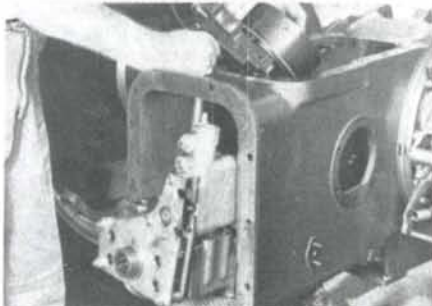
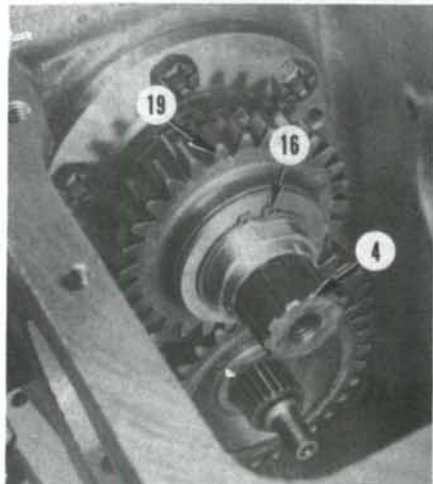

Fig. 221—On models equipped with independent pto, remove hydraulic pumps out front opening of housing and withdraw iptto clutch unit as shown.
Fig. 222—Remove snap ring (16) and gear cluster (19) from front of pinion shaft (4). Unit shown is equipped with dual speed iptto.
To remove bevel pinion on models equipped with Multi-Power, independent pto and/or auxiliary hydraulic system, it will be necessary to split the tractor between transmission housing and differential housing as outlined in paragraph 156. Remove hydraulic lift cover as outlined in paragraph 215. Remove hydraulic pumps as outlined in paragraph 222 and withdraw iptto clutch (if so equipped) as shown in Fig. 221. If equipped with two-speed iptto, remove snap ring (16—Fig. 222) and withdraw reduction gear cluster (19) with needle bearings and thrust washer from front of pinion shaft (4). On all models, remove cap screws attaching bearing retainer (8—Fig. 223 or 224) to differential housing, then thread two cap screws into tapped holes of retainer and tighten evenly to force retainer with bevel pinion assembly from housing.